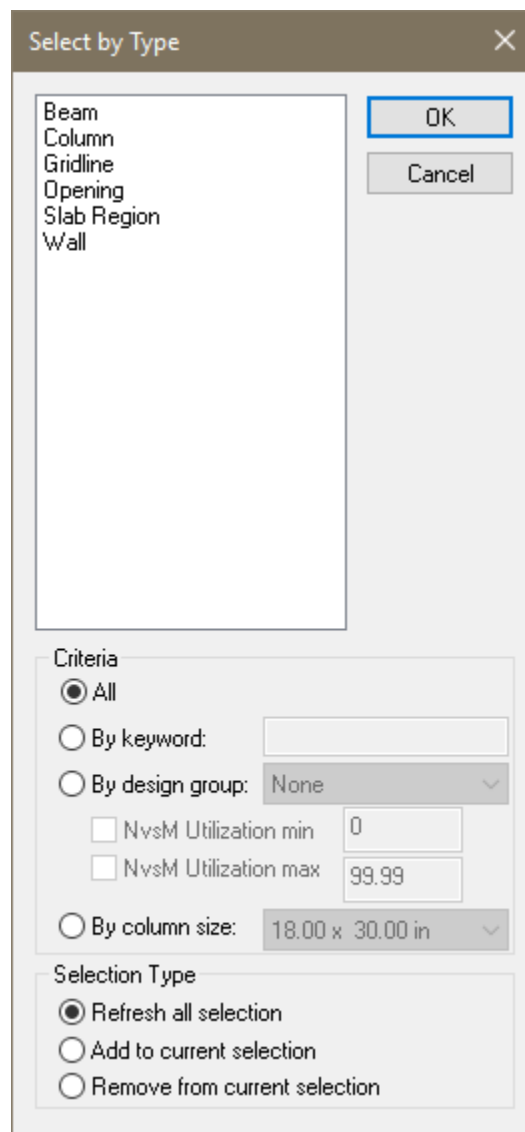

Figure 3-1
- Go to *Home* → *Selection Tools* and click on the *Select by Type*  icon. This will open the *Select by Type* dialog window as shown in **FIGURE 3-1**.